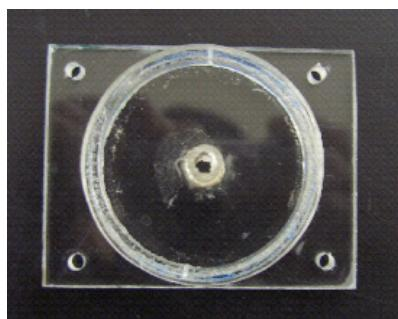

Fig. 1: Top view
- Cut a 6 mm length of a 4.5 cm diameter circular Perspex tubing, drill two small holes on the rim for gas exhaust. Fix the prepared ring to the sheet from step (1) with trichloromethane.
- Place the part obtained from step (3) on top of the ring obtained from step (2) and seal with trichloromethane. Make sure all joints are air-tight.
- Drill four holes near each corner of the rectangular sheet for screws to go through so that the two half compartments can join together. Figures 1 and 2 show the finished half compartment.